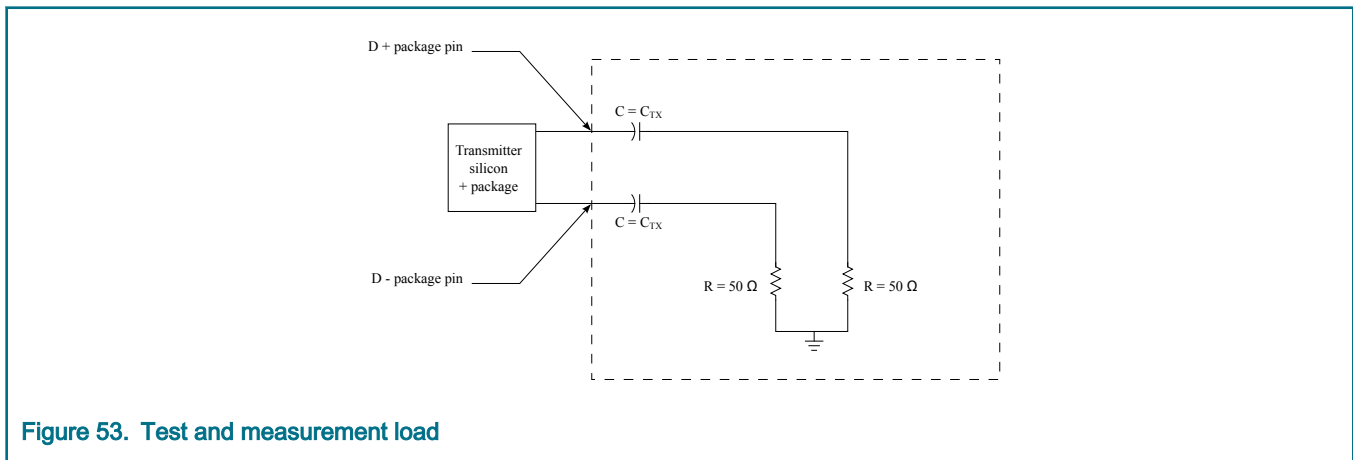

Figure 53. Test and measurement load
- See Figure 53.
5. See Figure 53.